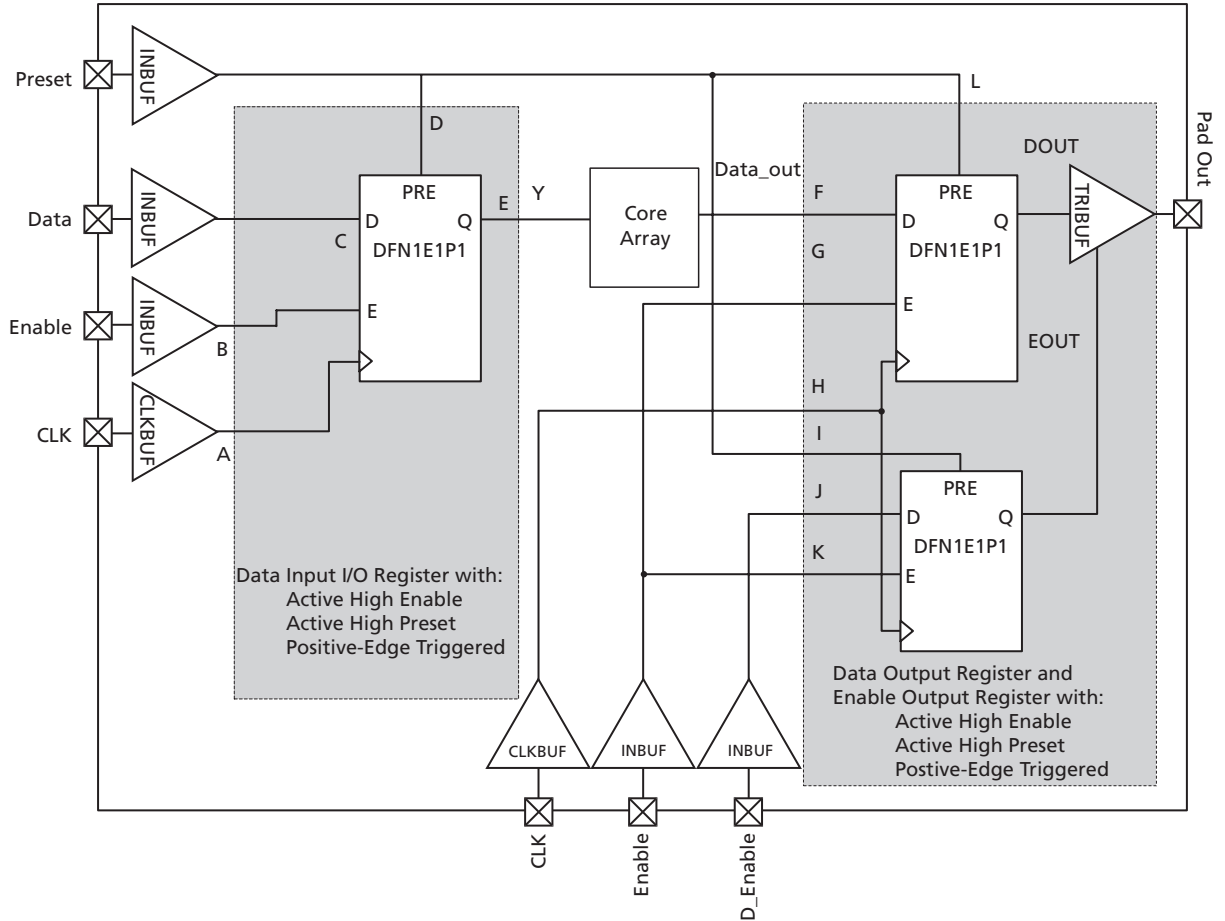

Figure 2-16 • Timing Model of Registered I/O Buffers with Synchronous Enable and Asynchronous Preset
* See Figure 2-16 on page 2-84 for more information.